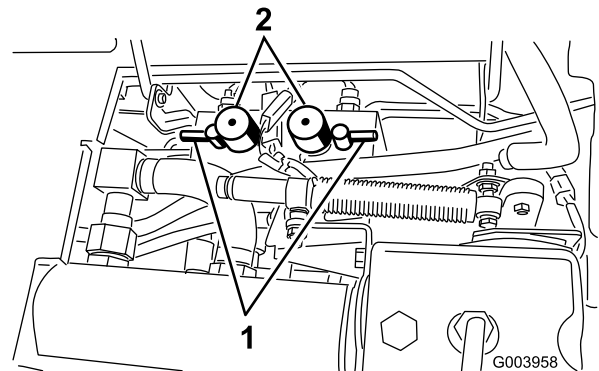

Figure 82
5. Set both reel speed controls to position 1 (Figure 82).
6. Select either front, rear or both backlap levers to determine which units to backlap (Figure 82).